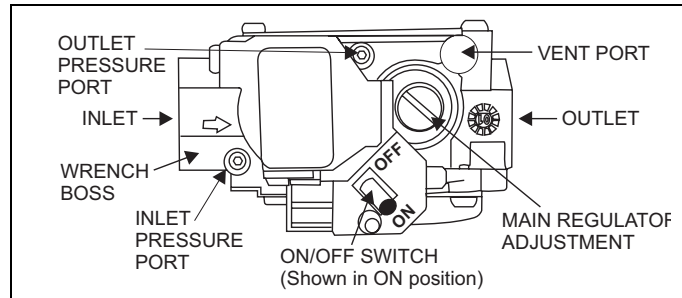

FIGURE 38: Gas Valve
Inlet and manifold gas pressure may be measured by connecting the "U" tube manometer to the gas valve with a piece of tubing. Follow the appropriate section in the instructions below. Refer to Figure 38, "Gas Valve" for a drawing of the locations of the pressure ports on the gas valve.
1. Refer to Figure 38, "Gas Valve" for location of pressure regulator adjustment cap and adjustment screws on main gas valve.